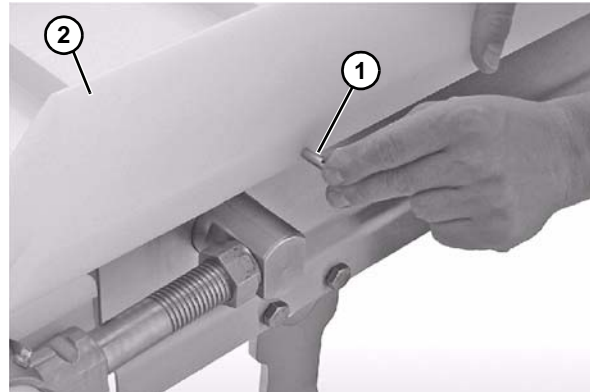

Figure 31
3. Insert the pull pins (Figure 31, item 1) into the holes in the guide (Figure 31, item 2).